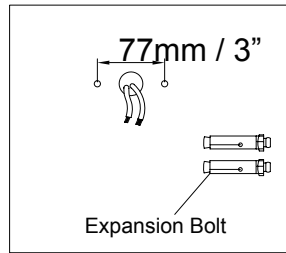

FIG.12
- 4 Insert the expansion bolts into the drilled holes, ensuring they are securely anchored. See (Figure 12) for details.